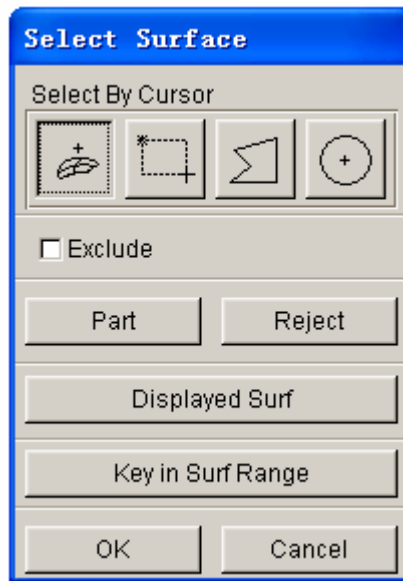

Figure 2.8: Surface mesh dialog box
5. Select **Displayed Surf** Button in **Select Surface** dialog box illustrated in Figure 2.8.